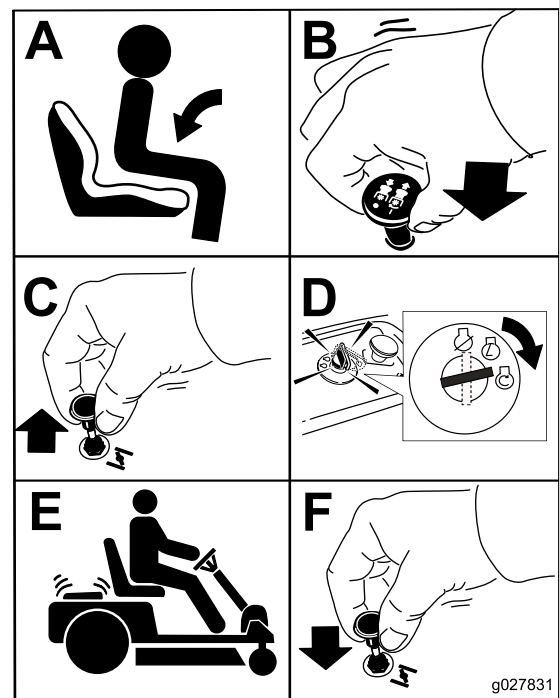

Figure 26
1. Disengage the blades by moving the blade-control switch to the OFF position (Figure 26).